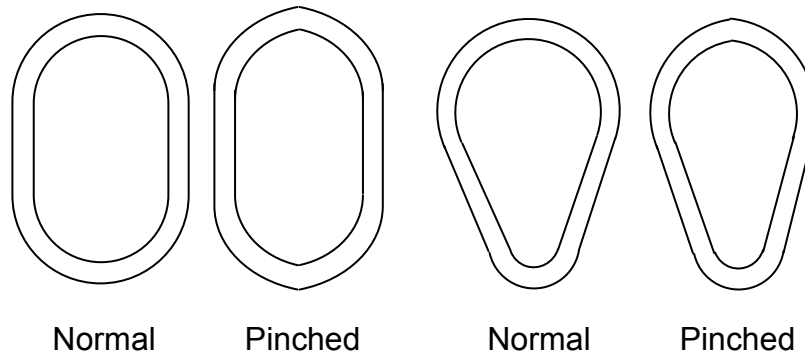

Figure 6. Normal and “pinched” link shapes. **If link is damaged then remove from service.** See C. Refurbishing Procedures.
- Check link for deformations. The curved ends of the link (either oblong or pear) should be generally circular in shape. If overstressing has occurred, the end portions of the link will appear “pinch.” Figure 6 shows the pinched affect of overstressed parts.